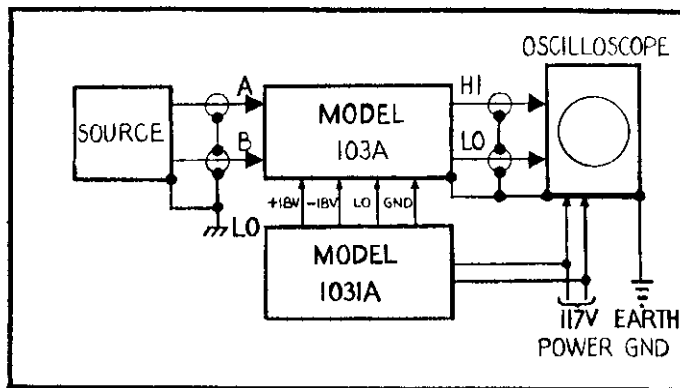

FIGURE 14. Use as an Oscilloscope Preamplifier.
a. Oscilloscope Preamplifier. When used as a pre-amplifier for a dual input oscilloscope the Model 103A can be connected as shown in Figure 14. The oscilloscope chassis should be connected to earth ground directly. The Model 103A outputs can be connect differentially or single-ended if necessary. When connecting the Model 103A output to a single input oscilloscope, the HIGH OUT receptacle should be used. Since the Model 103A low is isolated by 10 ohms above chassis ground when powered by the Model 1031A, no other connection is required. If another power supply is used such as batteries, it is necessary to connect a 10 ohm resistor between low and chassis.